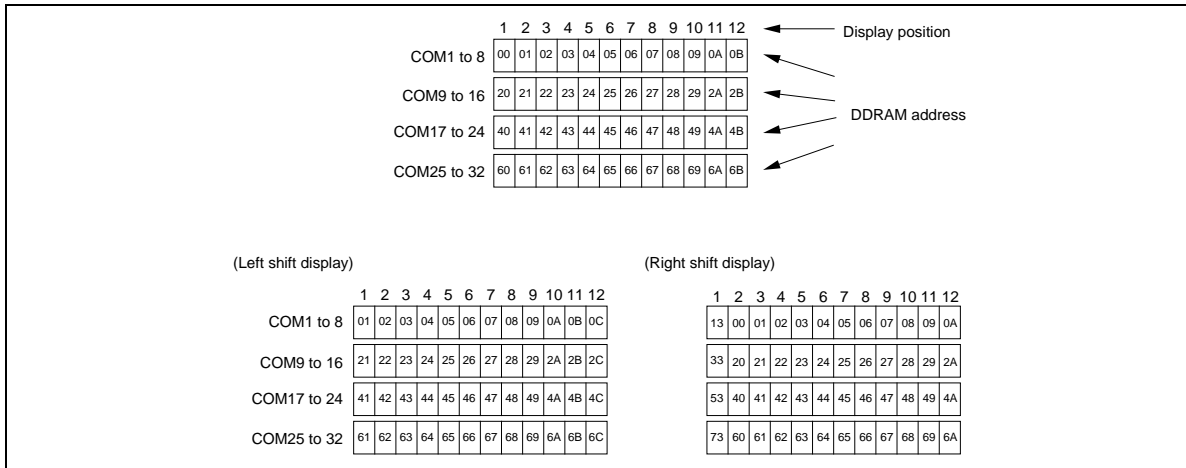

Figure 8 4-Line Display
- Note that the DDRAM addresses of each line are not consecutive. Figure 8 shows an example where a 12 × 4-line display is performed using one HD66712.